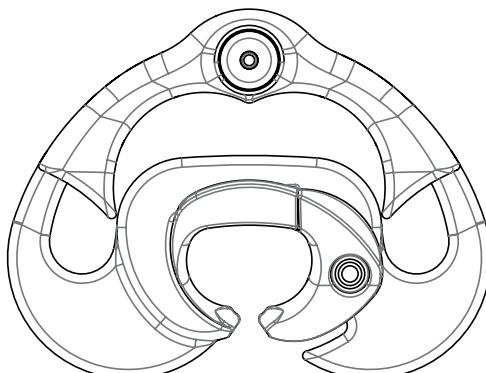

Fig. 1
Installation of EN 362 gate connector (fig. 1) of lanyard on traveller.
- Open the connector by acting on the lock (fig. 1, item 2) and flip the safety gate (fig. 1, item 3).
- Fasten the connector to one of the connection hole (fig. 1, item 9) of the travsmart traveller located at the ends of the frame (fig. 1, item 8).